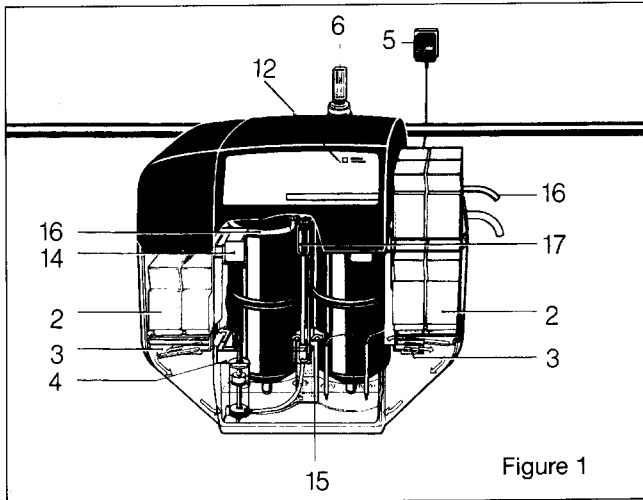
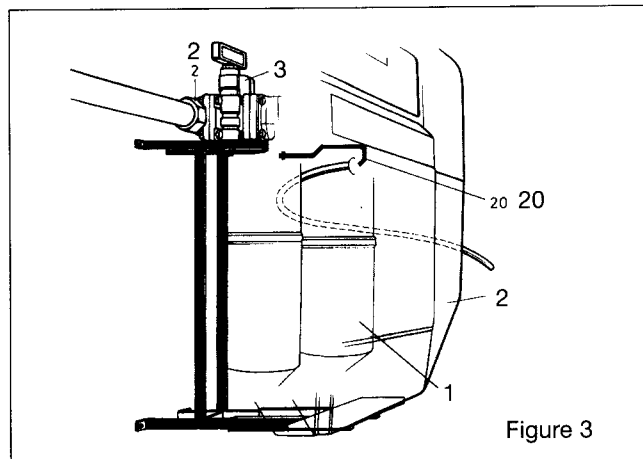

Figure 1
Figure 3
1. Fill in about 10 liters of water into the salt supply chambers (2), however to the ribbed intermediate bottoms (3) at the maximum.
2. Put the regeneration salt blocks into the salt supply chambers (2). When arranged correctly (figure 1), 4 layers with 4 Broxo blocks a 2.5 kg/5,5 pds each (= 40 kg/88 pds) can be placed. Should there be no block salt available at the moment, pellets or coarse grained salt (7 - 15 mm/0,28 - 0,6 inch) can be filled in as well. However, the quality has to correspond to DIN 19604 in any case.
2. Remove unsolved salt blocks from the supply chambers (2).
3. Detach filling and suction hose with suction control sleeve (15 and 17) from the control head (Figure 1).
4. Lift salt lack flaps (14).
5. Unlock brine tank (4) on the left and the right, pull it up and hinge it into the salt lack recesses.
7. Unscrew the locking screw (20) at the back of the unit (Figure 3).
8. Unscrew nut of the salt supply tank holding hook (21) and unhinge hook.
9. Pull salt supply tank with brine tank from the wall mounting to the front and take it near a floor drain or similar for convenient rinsing. The brine tank (4) can now entirely be taken out of the salt tank (when reinserting, please see to close fit of the vertical guide rails on the left and the right!)